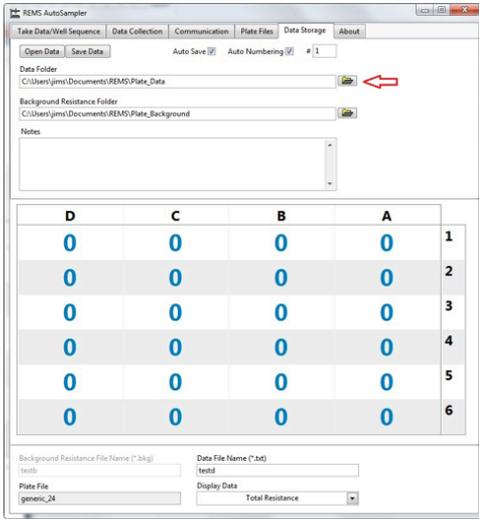
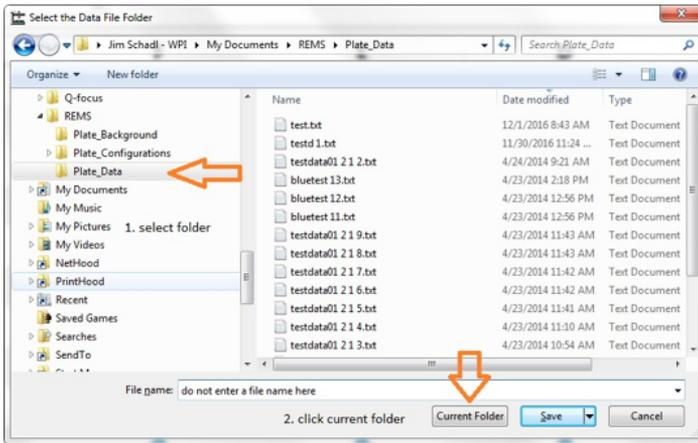

Fig. 45 — The Data Storage tab shows the folder where plate data is stored. The arrow indicates the Browse button.
Fig. 46 — Select the REMS/Plate_Data folder and click Current Folder.
1. To change that path correctly, select the browse button next to the Data Folder field on the Data Storage tab (Fig. 45). The Select the Data File Folder window appears (Fig. 46).